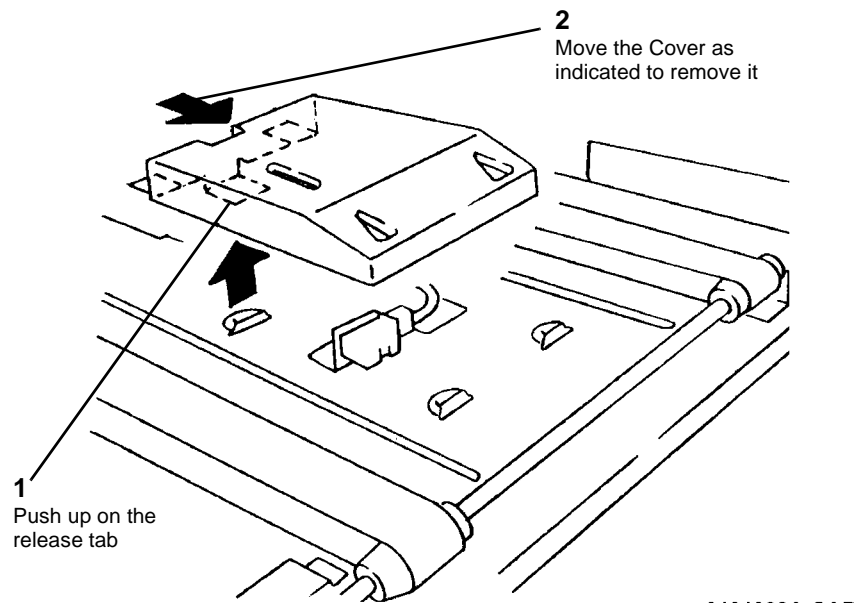

Figure 1 Removing the Cover
3. Remove the Cover (Figure 1).